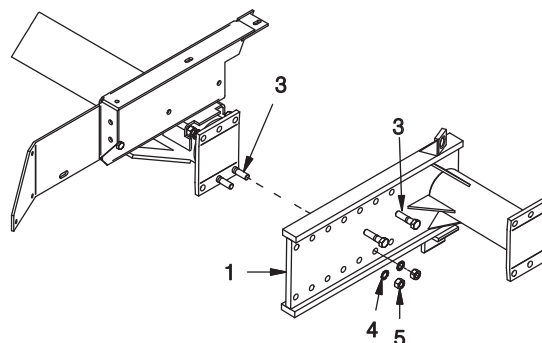

Figure 1 - Mounting Spacer Plate & Tandem Plate
A. Place (2) Y18C-1032 Bolts on the axle and tandem wheel plate as shown in Figure 1. Place (1) 901620 Tandem Wheel Plate on the axle as shown in Figure 1. Torque all nuts and bolts as per torque chart on page 1.